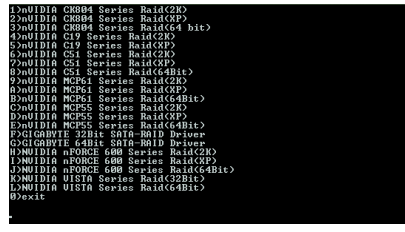
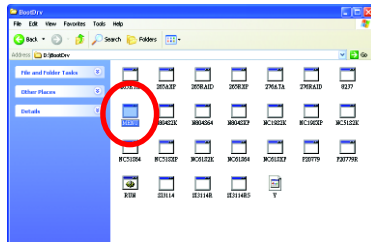

Figure 11
Figure 12
Step 2: When the controller menu (Figure 11) appears, remove the startup disk and insert the blank formatted disk. Select the controller driver by pressing the corresponding letter from the menu. For example, from the menu in Figure 11, press A to select **(A) nVIDIA MCP61 Series Raid (XP)** if you wish to install Windows XP (32-bit). Your system will then automatically zip and transfer this driver file to the floppy disk. Press 0 to exit when finished.
Use an alternative system and insert the GIGABYTE motherboard driver CD-ROM. From the CD-ROM drive folder, double click the **MENU.exe** file in the **BootDrv** folder (Figure 12). A command prompt window will open similar to that in Figure 11.